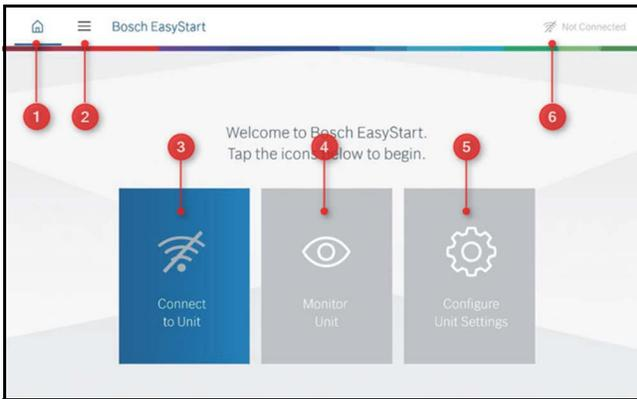

Fig. 24 Home Screen Elements
- Once you accept the legal information and review the User Guide, navigate to the home screen. See Fig. 24.